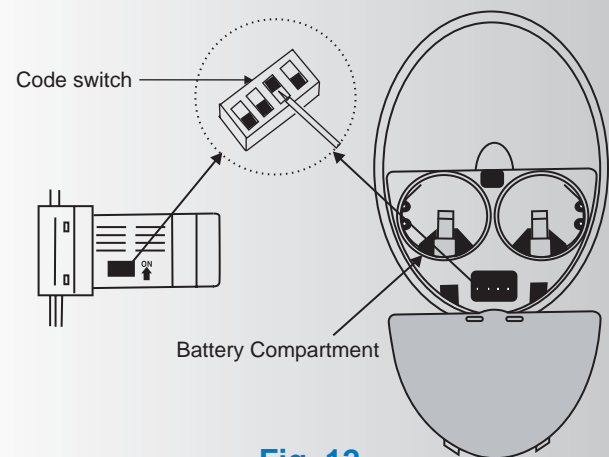

Fig. 12
**NOTE:** The CoolTouch™ Control System is equipped with 16 code combinations to prevent possible interference from or to other remote units. The frequency switches on your receiver and transmitter have been preset at the factory. Please recheck to make sure the switches on the transmitter and receiver are set to the same position, any combination of settings will position the fan as long as each switch on the transmitter and receiver are set to the same position. (Fig. 12) Changing the order of switches on each switch block, changes the operational frequency. Step 1. Insert the receiver into the mounting bracket, with the flat toward the ceiling. (Fig. 13) Step 2. Motor to Receiver Electrical Connections: